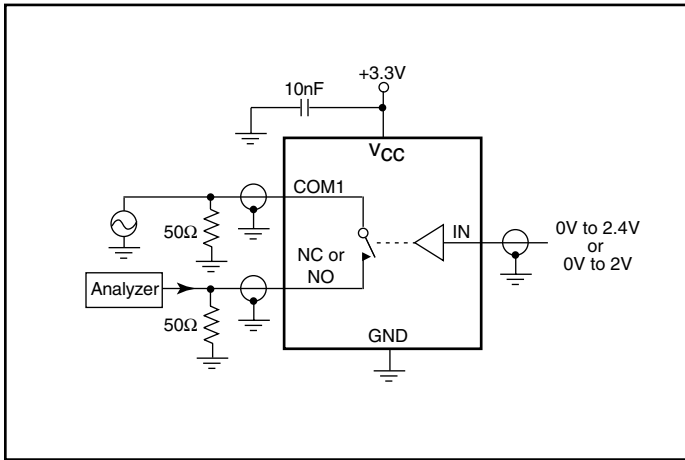

Figure 4. Off Isolation/On-Channel Bandwidth
- Off Isolation = $20\log_{10} [V_{COM} / (V_{NO} \text{ or } V_{NC})]$. See Figure 4.